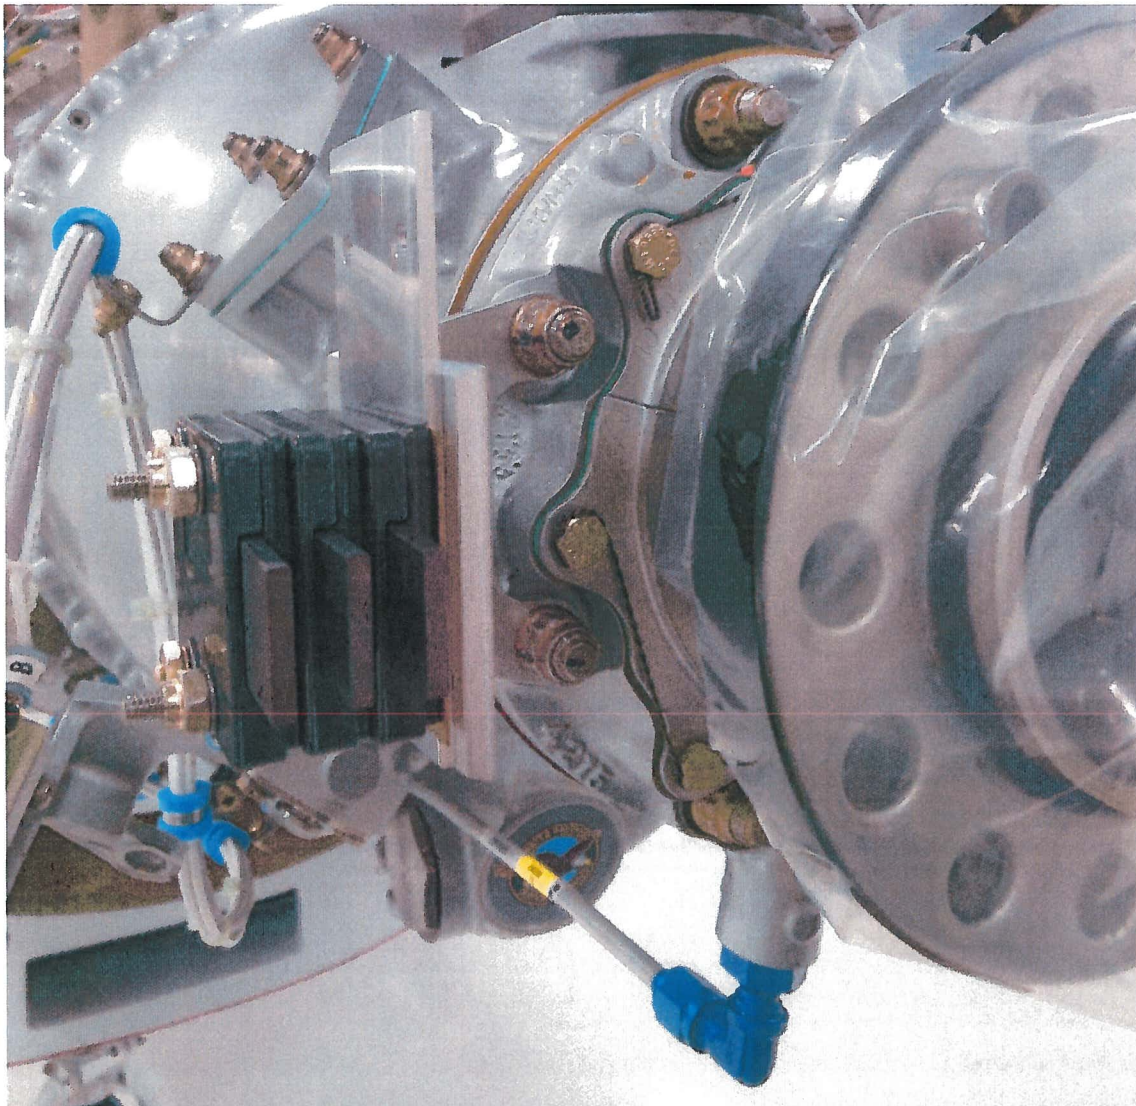

Figure 4
- e) Install 105915 brush block bracket in the place of the removed bracket as shown in Figure 4. Torque nuts holding the bracket to engine gearbox using standard torque values provided in the Pratt & Whitney Maintenance Manual.